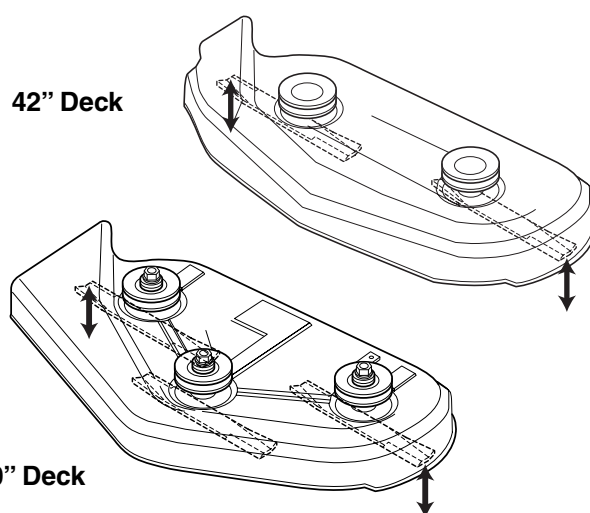

Figure 49. Orient Blades Side-to-Side
4. Set the cutting height to mid position. Arrange the mower blades so that they are pointing from side-to-side (Figure 49).